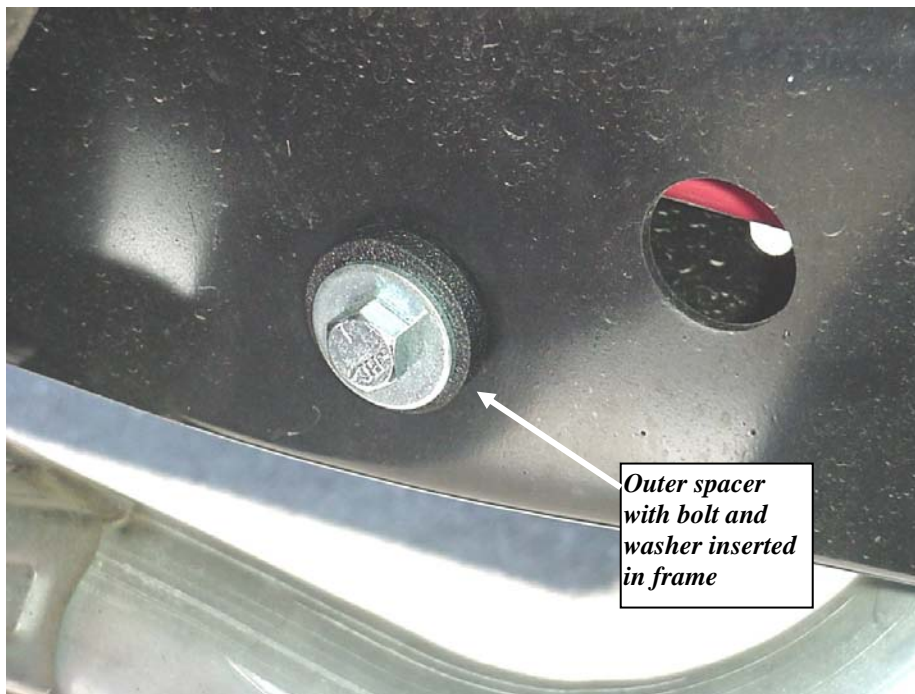

Figure 15 7/16 x 4 1/2" bolt through stepped spacer and frame
12. Place a 7/16 x 4 1/2" bolt through a flat washer, an Outer Spacer (larger diameter under bolt head) and insert into the large hole in the outside of the frame. **See Figure 15**